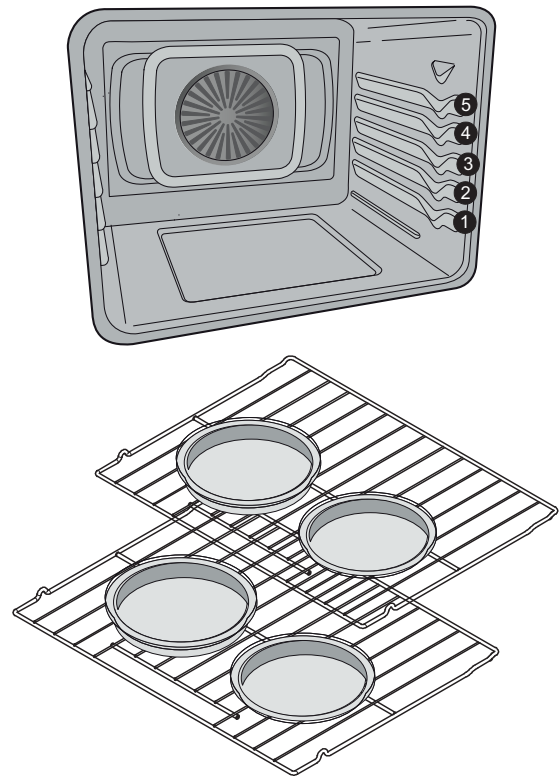

Figure 11: Rack positions and pan placement
- For best results when baking layer cakes using two oven racks, place racks in positions 1 (flat rack) and 3 Glide rack in the upper oven and place pans as shown in Figure 11. In lower oven place racks in positions 1 (flat) and 4 (flat).